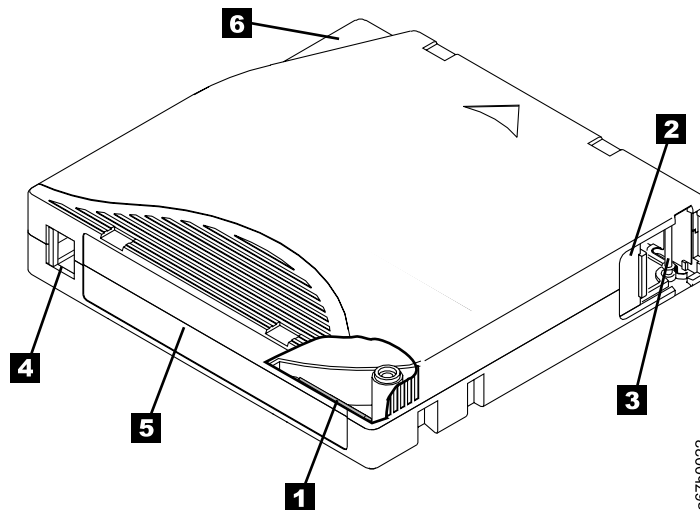

Figure 48. The IBM TotalStorage LTO Ultrium 200 GB Data Cartridge
Figure 48 shows the TotalStorage LTO Ultrium 200 GB Data Cartridge and its components.
Both generations of the IBM LTO Ultrium Data Cartridge includes a Linear Tape-Open Cartridge Memory (LTO-CM) chip (**1** in Figure 48 on page 60), which contains information about the cartridge and the tape (such as the name of the manufacturer that created the tape), as well as statistical information about the cartridge's use. Whenever you unload a tape cartridge, the 3582 Ultrium Tape Library writes any pertinent information to the cartridge memory.
The cartridge door (**2** in Figure 48 on page 60) protects the tape from contamination when the cartridge is out of the drive. Behind the door, the tape is attached to a leader pin **3**. When you insert the cartridge into the drive, a threading mechanism pulls the pin (and tape) out of the cartridge, across the drive head, and onto a non-removable takeup reel. The head can then read or write data from or to the tape.
When attaching a bar code label to a tape cartridge, place the label only in the recessed label area (see **5** in Figure 48 on page 60). A label that extends outside of the recessed area can cause loading problems in the drive or the library.
- Position the label within the recessed label area (see **5** in Figure 48 on page 60).